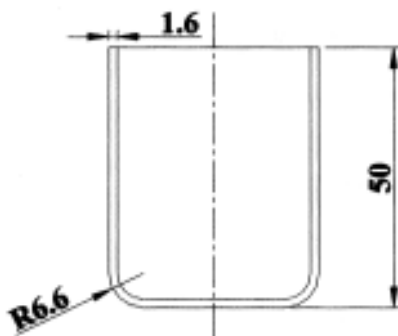

Fig: 2
3. Design a drawing die for the shell in fig. 2 16